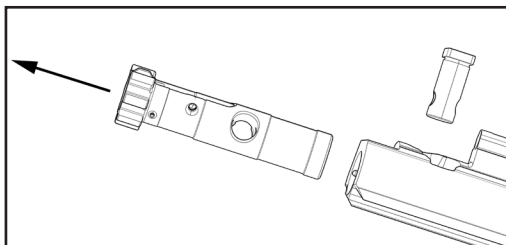

Fig. 41 – Slide the Bolt Head out
f. Slide the bolt head from the front of the bolt carrier (Fig. 41).